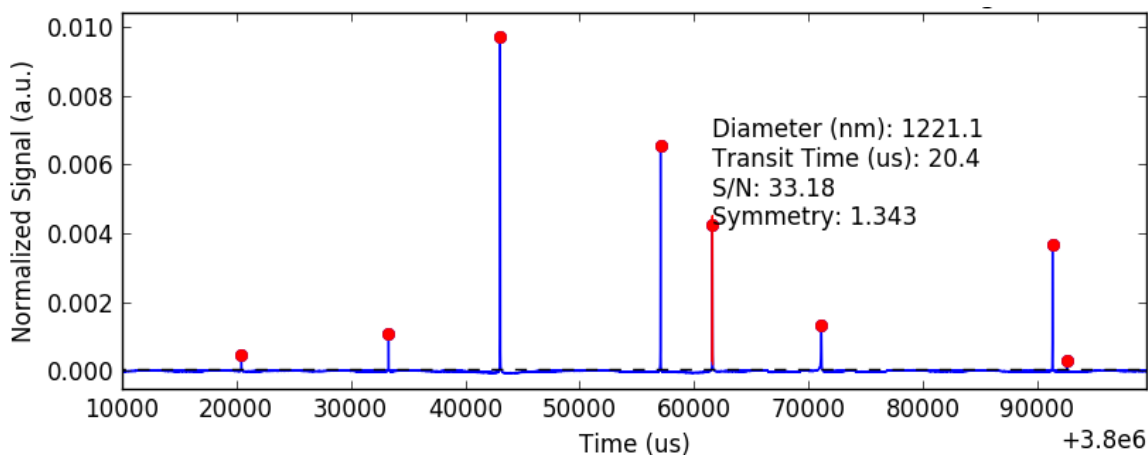

Figure 16. Inspecting individual peaks detected in the raw data.
- ❖ Clicking on the peak (at sufficiently high zoom) displays the details of the peak measurement (Figure 16).